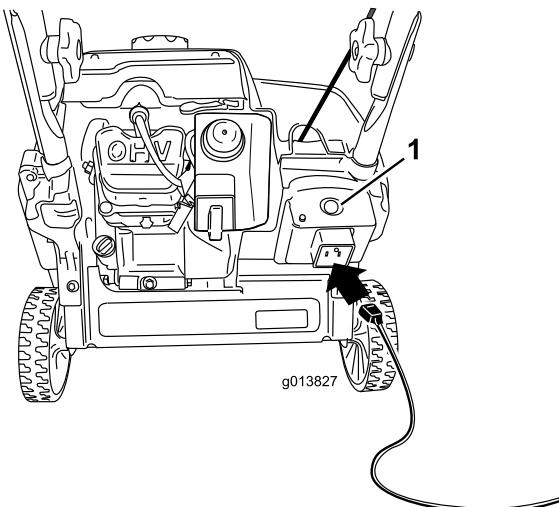

Figure 18
4. Connect an extension cord to a power source and the machine, and push the electric-start button (model 38473 only) (Figure 18), or pull the recoil start handle (Figure 19).